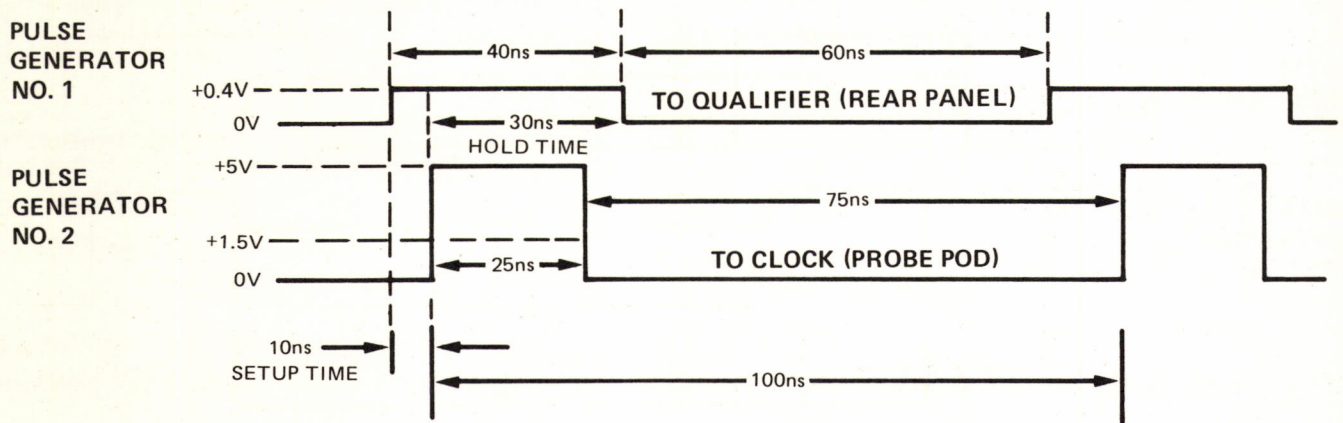

Figure 4-8. Maximum Low Inputs (Rear Panel) Test Waveforms
- f. Adjust pulse generators No. 1 and No. 2 as shown in figure 4-8. Verify that qualifier condition is invalid (message E41 displayed) when pulse generator No. 1 input is $\leq +0.4$ V. Steps e and f verify minimum input swing specification.